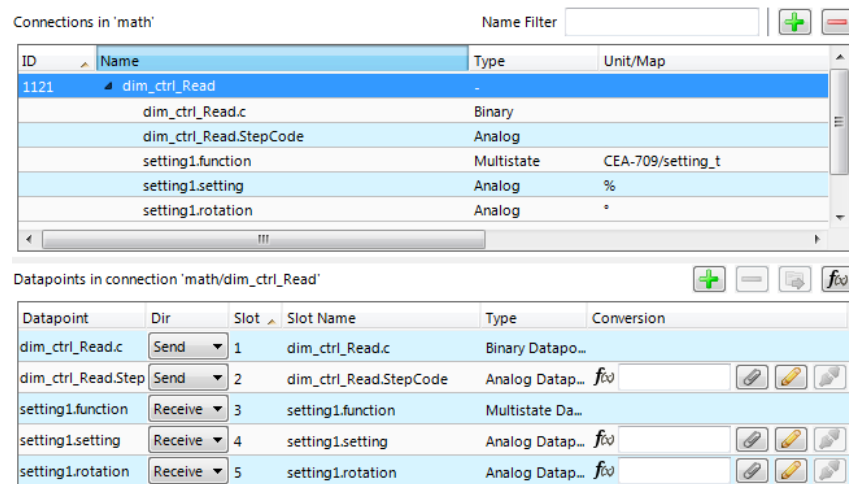

Figure 22: Multi-slot connection for math block adapter.
2. Add output slots to the multi-slot connection by adding a structured output data point. An example is shown in Figure 22.